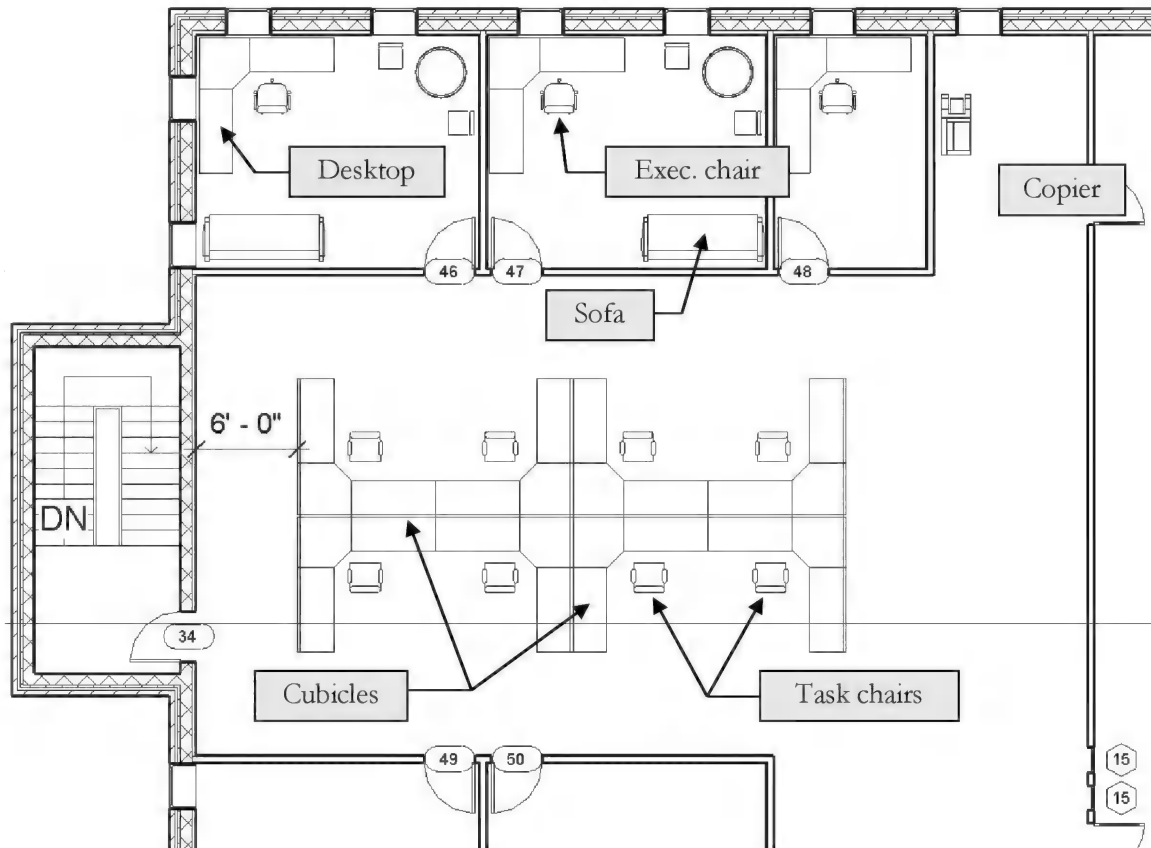

FIGURE 11-3.1 Level 3 – furniture layout
4. Place the furniture as shown in Figure 11-3.1.